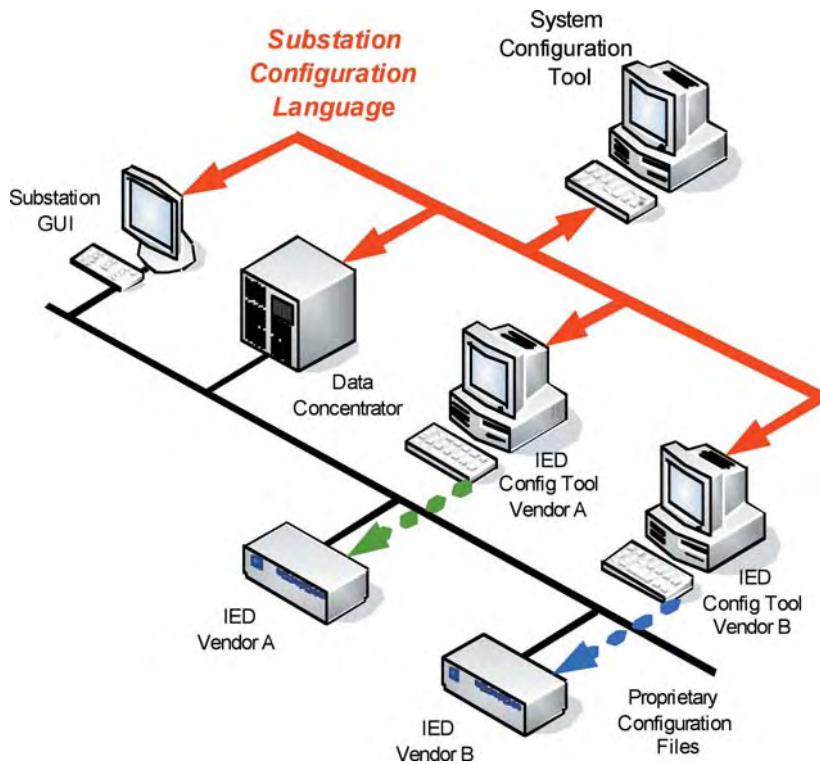

Figure 1 Example of System-Level Substation Configuration
- **Work seamlessly with other tools.** Figure 1 shows how SCL is intended to serve as a common language for either transferring data between tools, or for transferring configurations directly with devices such as the data concentrator and GUI in the figure. At the moment, there is no standard transport mechanism or service interface defined for exchanging SCL files. System tools must therefore take the initiative to launch other vendors' tools or to select custom directories where SCL files could be placed.
What utilities need to convince them of the usefulness of IEC 61850 is a tool that looks at the entire substation. Figure 1 illustrates how such a tool might be used. It would have the following characteristics: